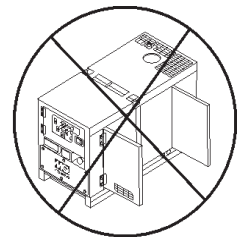

**Figure 46. Load Connections**
- Connect the load to the **UVWO** terminals or **auxiliary receptacles** as shown in Figure 46. These load connection points can be found on the output terminal panel. To gain access to the UVWO terminals or other power receptacles, unlock the access cover and lift the door.